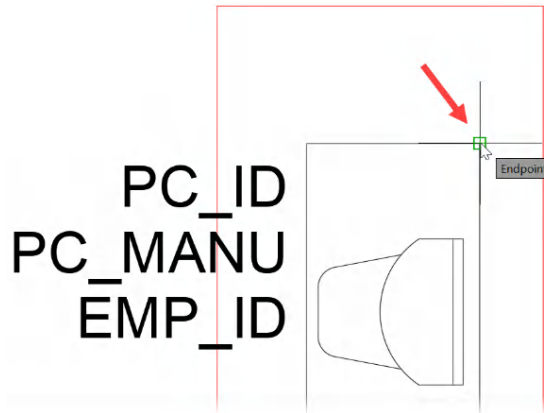

Figure 10.11 – The Endpoint object snap on the selected objects
14. Select the **Pick point** icon in the dialog box, and in the drawing, select the top-right **Endpoint** snap of the objects, as shown in *Figure 10.11*.